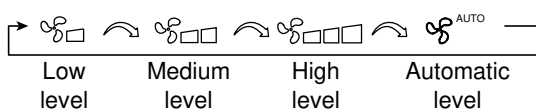

Fig. 25: Setting the fan speed
- Each push on the FAN key changes the fan level in the sequence as shown in Fig. 25.